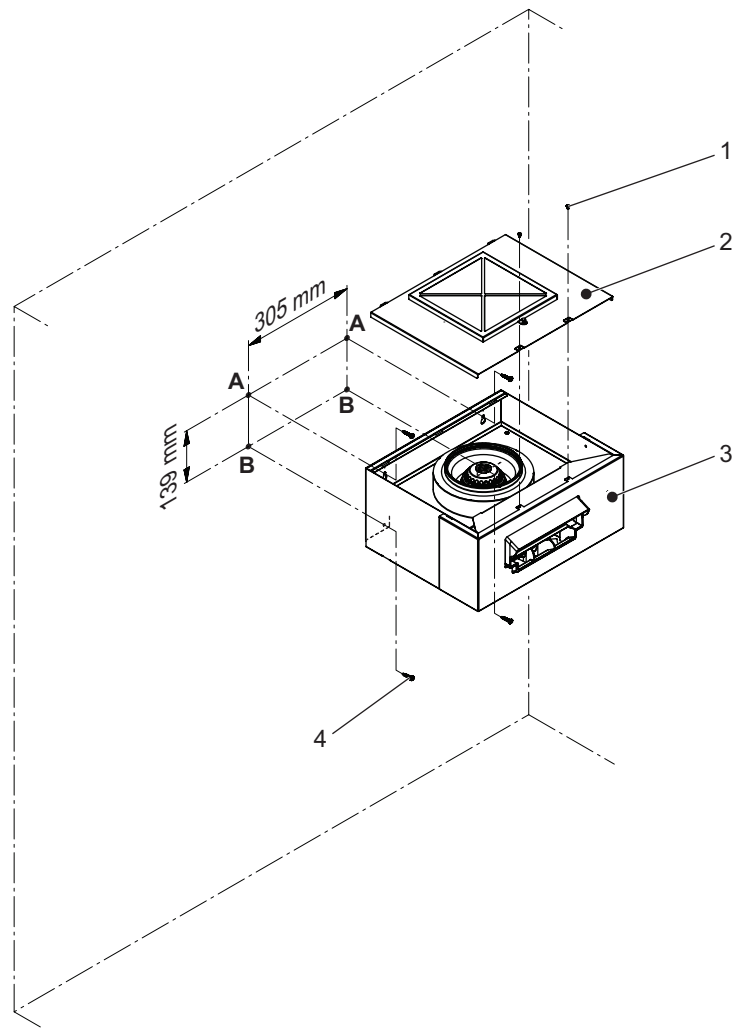

Figure 10: Wall-Mounted Blower Pack
- a. Locate suitable supports in the wall or mounting surface that are capable of supporting the full weight of the blower pack, and mark the attachment points "A" and "B" at the desired position with the help of a level – refer to Figure 10.